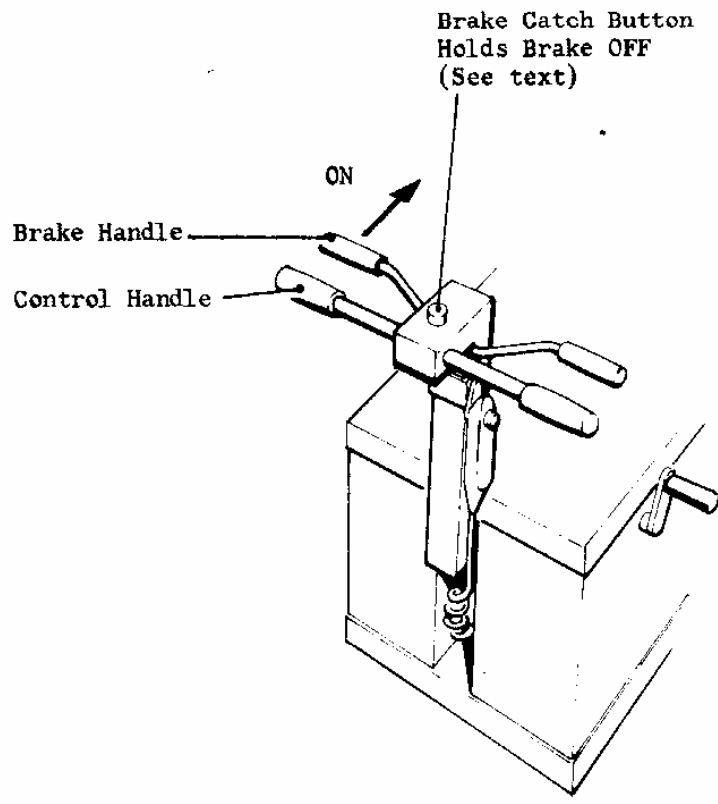

Fig 42 Moving the Hand Driven Model
29. MOVING THE HAND DRIVEN MODEL Fig 42